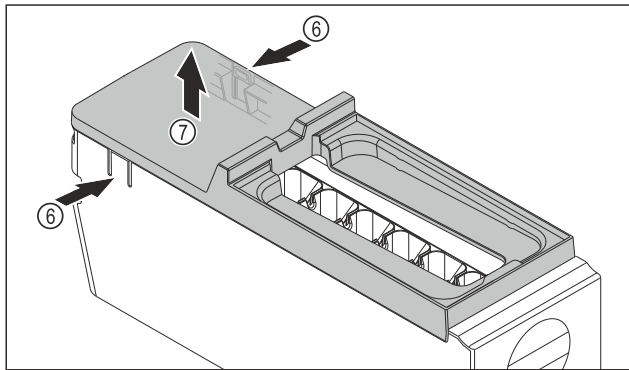

Fig. 107
- ▶ Removing the EasyTwist-Ice body cover: Push the tabs Fig. 107 (6) on both sides of the EasyTwist-Ice body with one hand.
- ▶ Use the other hand to remove the cover Fig. 107 (7) upwards.